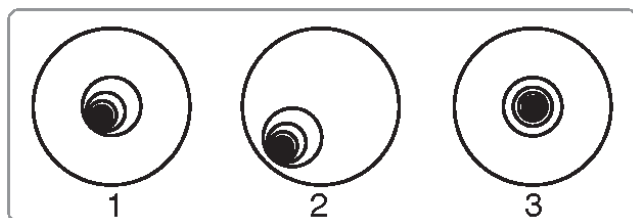
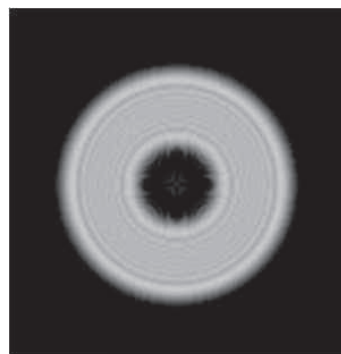

Figure 3a.
Figure 3c. Defocused star pattern in a properly collimated ACF system.
c. Using the AudioStar's Arrow keys at the slowest slew speed, move the defocused image to the edge of the eyepiece field of view (2, Fig. 3a), in the same direction as the darker shadow is offset in the ring of light.
f. When you bring the image to center (Fig. 3a), carefully examine the evenness of the ring of light (concentricity, Figure 3c). If you find that the dark center is still off in the same direction, continue to make the adjustment in the original turning direction. If it is now off in the opposite direction, you have turned too far and you need to turn in the opposite direction. Always double check the image in the center of the field of the eyepiece.